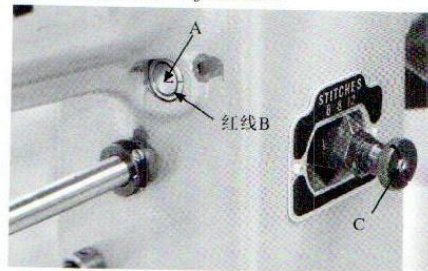

Fig. 19
To set stitch selector to desired number of stitches, either 6, 8, or 12, operate machine until red arrow on cam shaft (A, Fig. 19) coincides with red line (B) on bushing. Pull out stitch selector knob (C), and move sideways until indicator point lines up with desired number of stitches, and release selector knob.